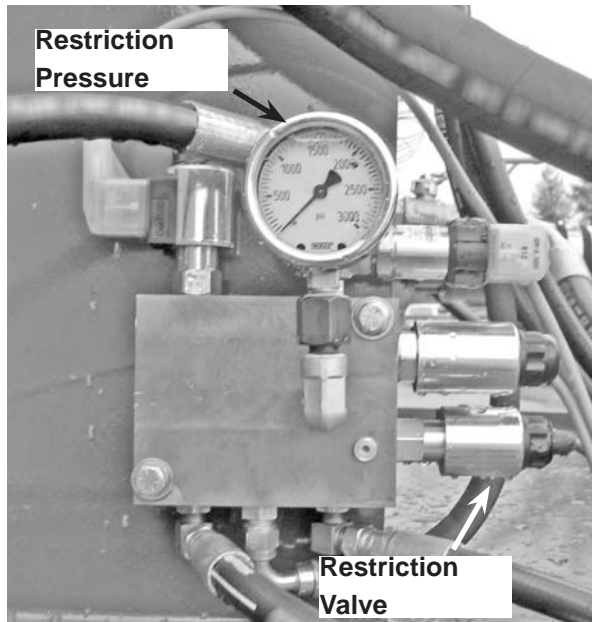
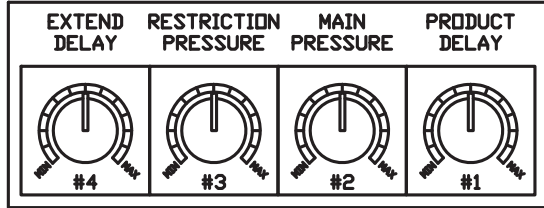
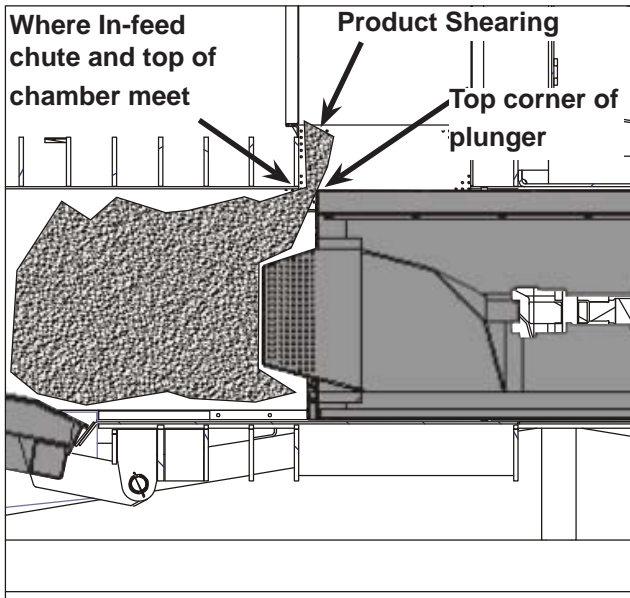

Figure 22 - Restriction System Solenoid Valve
Figure 30 - Potentiometer
Figure 31 - Product Shearing between plunger and chamber frame.
**Restriction Proportional Valve** The Restriction Min-Max pot #3 (see Figure 30 page 13) located in the panel provides a control signal which varies the pressure output from the Restriction Proportional Valve. When the pot is set at Min, the pressure in the restriction rail system will be at a minimum 75 psi. When the pot is set at Max, the pressure in the restriction rail will be at a maximum value of 2500 psi or equal to system pressure. The restriction pressure will never exceed main system pressure.
The restriction rail is located at the bottom of the discharge chute. The automatic restriction rail control system controls two hydraulic cylinders that operate the restriction rail. The restriction system proportional valve (see Figure 22) controls the force applied by the restriction rail to the product (dewatering pressure), and is adjusted to obtain the desired water content of the discharged product.
**Potentiometer Adjustments** The Potentiometer (see Figure 30) located in the control box has 4 adjustments; Extend Delay, Restriction Pressure, Main Pressure, and Product Delay.
**Extend Delay** is set by the Extend Delay Pot #4 shown in Figure 30 (Min being 0 seconds and Max being 15 seconds). This adjustment increases or decreases the time that the plunger remains in the fully retracted position in CONT. or TRIG. CYCLE MODE. Keep this setting close to MIN to avoid shearing (see Figure 31).
**Restriction Pressure** is set by the Restriction Pressure Pot #3 shown in Figure 30 (Min being 0 psi and Max being 2500 psi). Pressure can be read on the restriction pressure gauge (see Figure 22 page 9). Pressure wont exceed main system pressure.
**Product Delay** is set by the Product Delay Pot #1 shown in Figure 30 (Min being 0 seconds and Max being 15 seconds). This adjustment increases or decreases the time that the plunger remains in the fully extended position in CONT. or TRIG. CYCLE MODE.